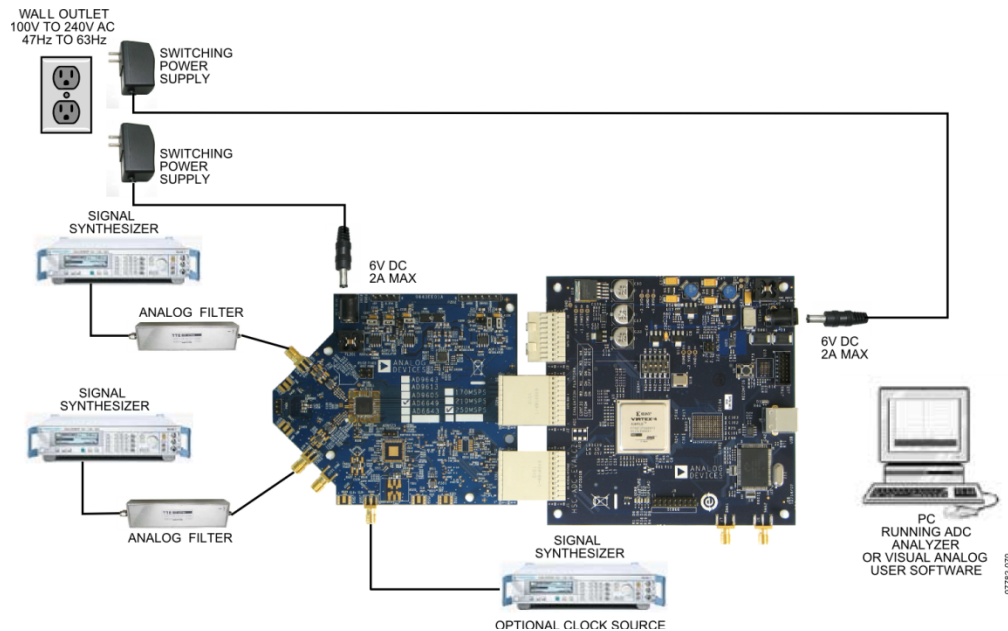

Figure 1: AD9643 Evaluation Board with HSC-ADC_EVALCZ Data Capture Board
1. Connect the AD9643 evaluation board and the HSC-ADC-EVALCZ board together as shown in Figure 1.
9. Next open the SPI Controller software. If prompted for a configuration file, select the configuration file titled AD9643spiR03.cfg. If not, check the title bar of the window to see which configuration is loaded. If necessary, choose “Cfg Open” from the “File” menu and select one of the configuration files named above. Note that the CHIP ID(1) field may be filled whether the correct SPI Controller configuration file is loaded or not.
11. Set the DCO Clk Delay Enable checkbox in the FLEXOUTPUT DELAY(17) panel on the ADCBase0 tab as shown below. In addition, set the DCO Clk Delay register to the ‘600ps